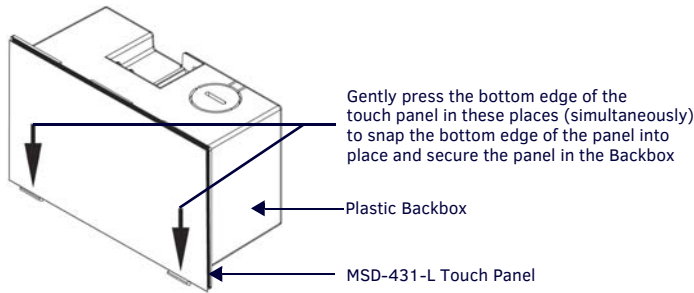

FIG. 6 SNAPPING THE BOTTOM EDGE OF THE PANEL INTO THE BACKBOX
- Gently press the bottom edge of the panel gently but firmly and ONLY IN THE PLACES INDICATED BELOW until the tabs click into place to secure the panel in the Backbox (FIG. 6):